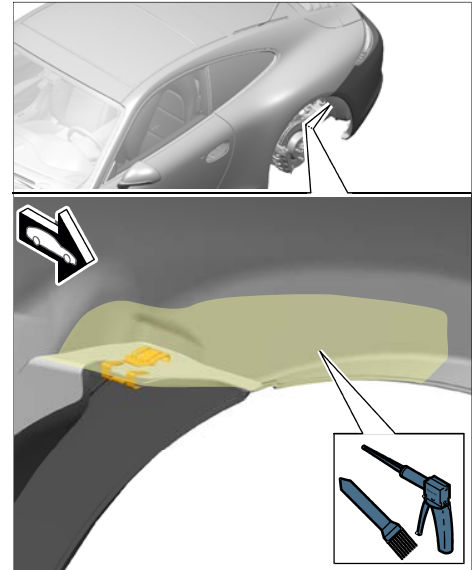

Figure 36
- 7.2 Apply body sealant to the area marked in yellow ⇒ *Figure 36* and spread it out evenly with a brush.